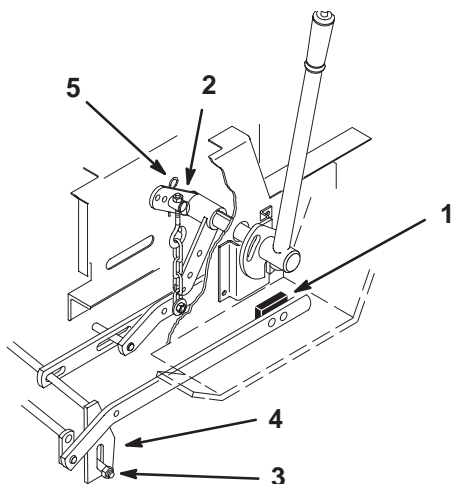

Figure 11
- Adjust lift chain by turning trunnion on eyebolt in rear hole of tractor lift (Fig. 11). Turn trunnion clockwise to raise or counterclockwise to lower mower.
- To adjust side-to-side level, loosen the leveling bolts. (Fig. 11).
- Adjust the deck level and then tighten leveling bolts. (Fig. 11).